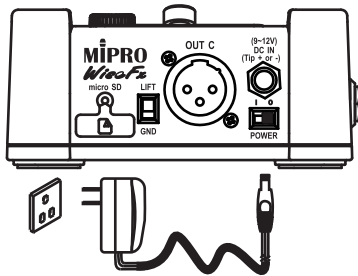

Fig. 5
(A) Power Supply Installation, Fig. 5: